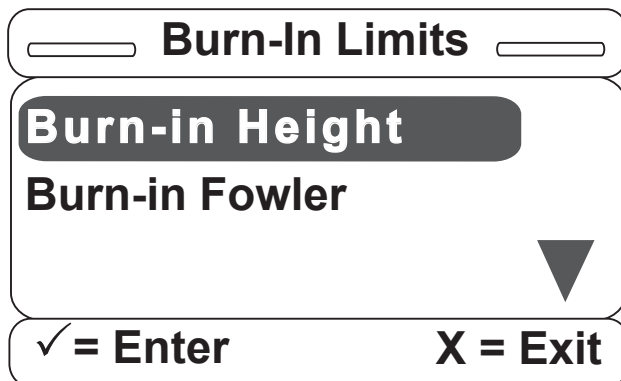

Figure S-32
30. Once the Burn-in item is selected, the screen in Figure S-32 will be displayed. The Burn-in Height item will walk the user through the burn-in height routine; and, similarly, the Burn-in Fowler item will walk the user through the burn-in fowler routine.